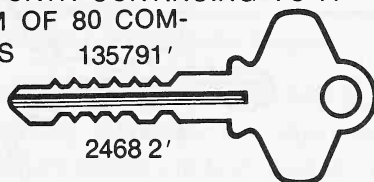

Fig. 10-29. A list of combination numbers for a masterkeyed group. Each number contains the unique slot code number 9.
3. If only two masterkeyed groups are desired under the grand masterkey, arbitrarily select another column which will provide two slots, each of which will be assigned exclusively to a masterkeyed group and will be the means for separating the two groups, thus preventing interchangeability of their keys (Fig. 10-29).
5. Tabulate a list of four digit combination numbers, each of which must contain one of the unique slot code numbers selected in step 3. The remaining three digits may be drawn from the available code numbers obtained in step 4, but remember to select not more than one digit from any one available column. This list of combination numbers represents one masterkeyed group (Fig. 10-29).